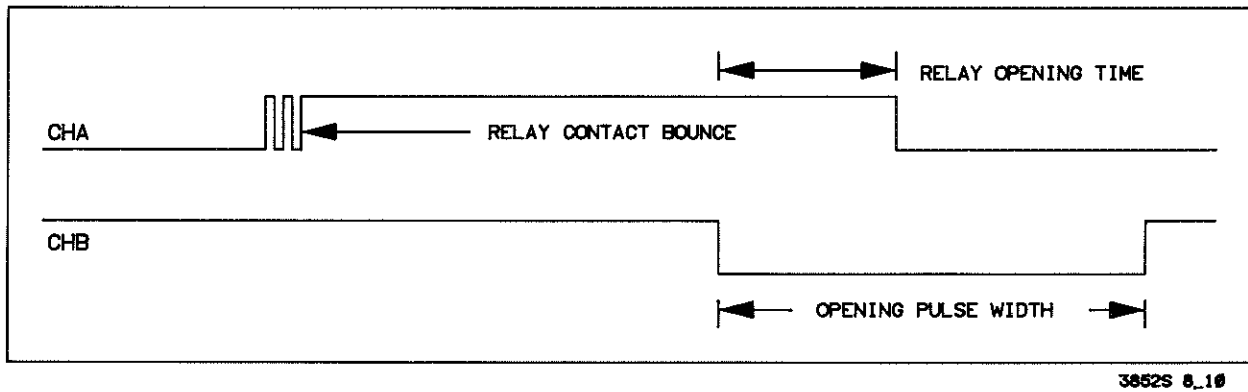

Figure 8-11 HP 44705A/H Opening Time
4. The OPENING pulse is a negative pulse. The width of the negative portion of the pulse must be between 0.77 and 0.94 milliseconds for the HP 44705A or between 1.54 and 1.88 milliseconds for the HP 44705H. If the pulse width is not within these limits, the relay multiplexer is failing. The OPENING pulse is shown in Figure 8-11. The waveform exhibits a small amount of jitter caused by the operating system.
7. Rotate the DELAY SWEEP dial to the minimum position. Select the DELAYED sweep mode on the scope. Slowly rotate the DELAY SWEEP dial clockwise while observing the displayed waveforms. The Channel B waveform is the OPENING pulse. The Channel A waveform is the +5V supply as switched by the relays. As the DELAY SWEEP dial is rotated, one relay closure and the associated OPENING pulse will come in to view at a time. The relay opening time is the time between the falling edge of the OPENING pulse (Channel B) and the falling edge of the Channel A waveform. This time must be less than 0.94 milliseconds for the HP 44705A or 1.88 milliseconds for the HP 44705H. This time is illustrated in Figure 8-11.